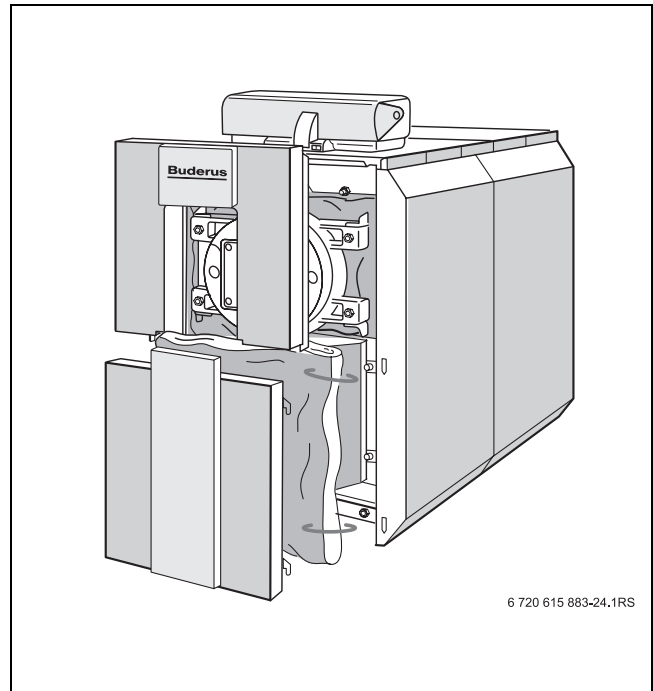

Fig. 29 Removing the front panel and thermal insulation
- ▶ Fit lower and upper front panels of the boiler (→ Fig. 29, page 40).